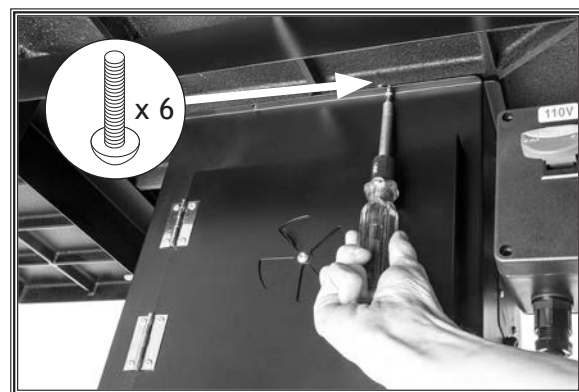

Figure 6. Attaching dust enclosure to table.
2. Install dust enclosure (see **Figure 6**) underneath your router table with (6) 10-24 x 3/8" Phillips head screws.